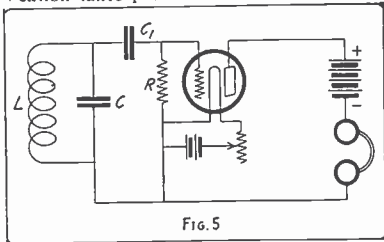
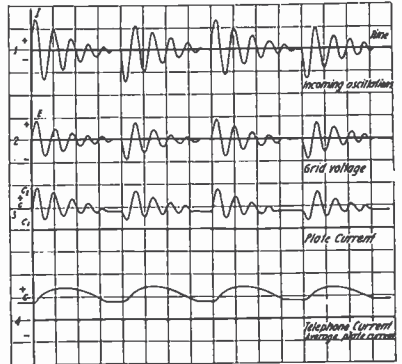
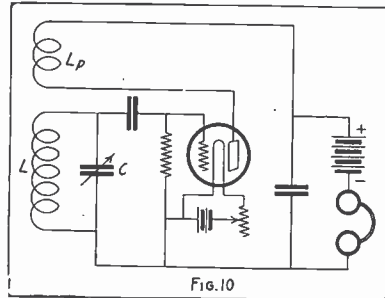

Fig. 5
Fig. 6
Fig. 10
amount of gas which acted as a conductor and permitted the negative charges to leak off the grid to the filament and neutralize themselves with the positive charges on the other plate of the condenser C. The new high vacuum tubes do not permit this action because of the absence of any gas. A conductor of some kind must be connected from the grid to the filament over which the charges can flow. This conductor should be of such a resistance that no current will flow in it until the condenser C₁ has been fully charged, i. e., not until the end of the group of oscillations. If the resistance is too high, or else entirely absent, the charges will accumulate until they are large enough to pass thru the vacuum of the tube. This action will be noticed by a constant "put, put, put" sound in the telephones. The resistance just described is called the "grid leak." It is shown as "R" in Figure 5. The actual value of it depends upon various things, but it is almost always between one and four million ohms. Both the Marconi vacuum tube and the V T 1 are supposed to operate best on two million ohms, altho the writer has generally had better results using four or five million ohms with the V T 1.
from filament to grid; if negatively charged, it will prevent any current. Refer now to Figure 5. Incoming oscillations will induce an alternating current in the circuit L C. The charges of electricity in C will cause the grid to become alternately positive and negative, decreasing and increasing by the same amount. When the grid is negative (with respect to the filament), no current can flow in its circuit, as was just explained. But when the grid is positive, negative electrons will flow to the grid and will be stored up in the grid condenser C. The next oscillation will repeat this process and add a negative charge to the grid condenser C. Thus the grid condenser stores up more and more negative charges as long as the oscillations continue. It will be plainly seen that as the grid condenser becomes more negative the grid itself becomes more and more negative with respect to the filament.
trated by curve (1) of Figure 6. In the case of a 500-cycle set working on 600 meters wave length, there will be 2×500 , or 1,000 groups of oscillations per second. And each group will consist of oscillations of a frequency of 500,000 cycles per second. For example, in curve (1) from *O* to *A* will be 1/1000 of a second, and will contain oscillations of radio frequency (say 1,000,000 per second).
These incoming oscillations in the antenna circuit will induce similar oscillations in the circuit *LC* of Figure 5. They will then be rectified by the tube and will cause a current in the grid-filament circuit, as shown in (2) Figure 6, and, according to the discussion above, will cause the grid voltage to vary, as shown by curve (3). At point *O* in (3) the grid is at zero volts. It then becomes more and more negative until the oscillations cease, when the negative charge leaks off by means of the "grid leak" and the grid again becomes zero potential. Such action occurs as at points *A* and *B*.
tions in the circuit *LC* of Figure 5. They will then be rectified by the tube and will cause a current in the grid-filament circuit, as shown in (2) Figure 6, and, according to the discussion above, will cause the grid voltage to vary, as shown by curve (3). At point *O* in (3) the grid is at zero volts. It then becomes more and more negative until the oscillations cease, when the negative charge leaks off by means of the "grid leak" and the grid again becomes zero potential. Such action occurs as at points *A* and *B*.
With no incoming oscillations, the plate current has a certain constant positive value. But the negative charges on the grid reduce the plate current according to curve (4) in Figure 6. When the grid charge leaks off and the grid becomes zero again, the plate current also becomes normal, as at *A* and *B*.
Let us arrange an ordinary detector set as shown in Fig. 5 and add to it an inductance in the plate circuit. Such an arrangement is illustrated in Fig. 10, where L_p is the plate inductance. Consider the filament lighted normally and no oscillations coming in on the grid (thru *LC*). As we